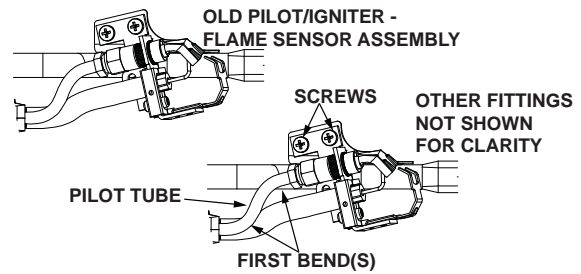

FIGURE 30.
4. Pull the pilot tube from the pilot assembly (Figure 30). **IMPORTANT:** Be careful not to bend or alter the position of the pilot assembly components.